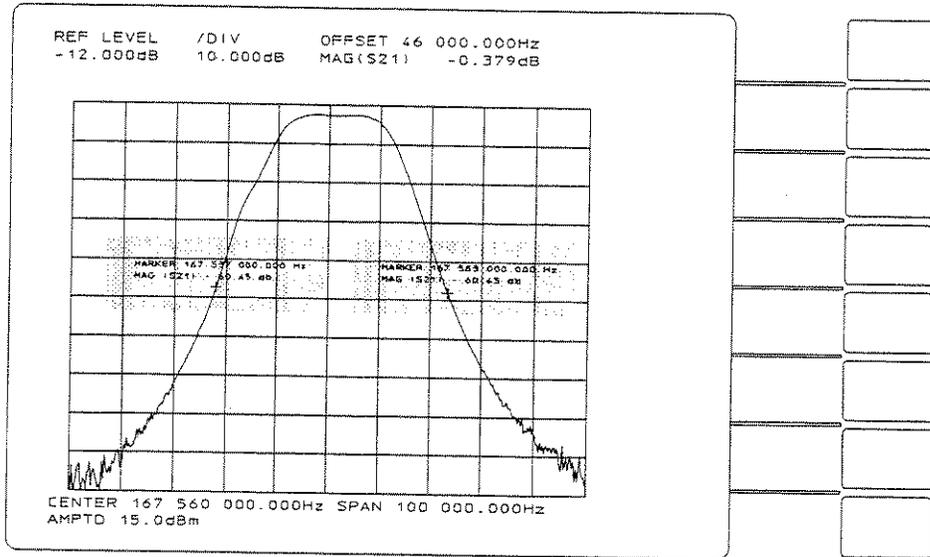

Figure 4-39
**PLOT MARKER 1 and 2** are softkeys used to plot multiple markers. This allows the user to mark many points of interest on the plot. The “extra” markers appear as a cross hair on the trace and the marker block information is plotted next to it. See figure 4-39. If the marker is near one of the edges of the graticule the marker information is moved such that it all appears on the graticule. Information blocks may overwrite each other if the markers are close. To use this feature: